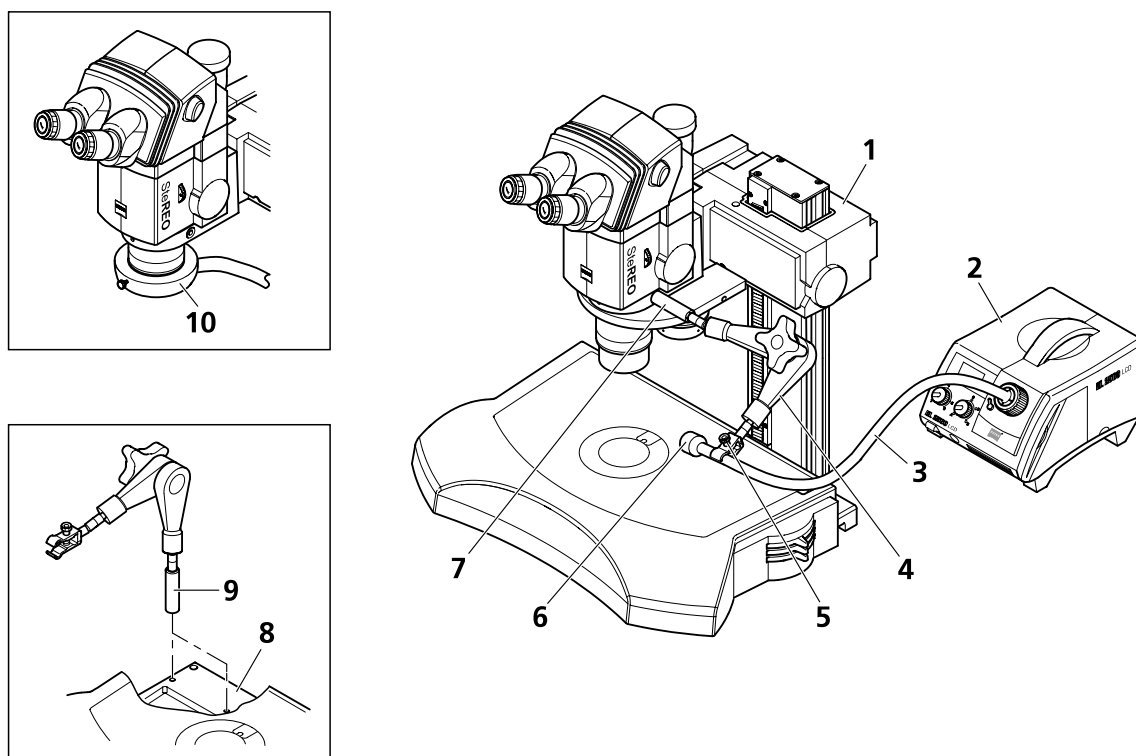

Fig. 19 **Installing the incident-light illuminator**
- **Flexible light guide with focusing attachment** (Fig. 19/3 and 6):
To be fastened to objective nosepiece, microscope carrier or stand base (Fig. 19/8) by means of the articulated arm and the clamp.
- **Fiber-optical ring illuminators and LED ring illuminators** (Fig. 19/10):
- Screw in the spacing rod (Fig. 19/7), if necessary.
- Hold the articulated arm (Fig. 19/4) in such a way that the label is correctly readable. Then, screw the clamp for the light guide (Fig. 19/5), the line light or the appropriate focusing attachment (Fig. 19/6) onto the upper end of the articulated arm.
- Screw the bottom end of the articulated arm (Fig. 19/4) into the spacing rod or one of the tapped holes on the stand. Tighten the tensioning screw on the articulated arm so that the latter can be used as lever.
- Connect the light guide (Fig. 19/3) to the cold-light source (Fig. 19/2).
The articulated arm may also be fixed to the stand base (Fig. 19/8). To this end, screw in the spacer (Fig. 19/9).
- Push the slit-ring illuminator (Fig. 19/10) onto the objective and clamp it by means of the knurled screw.
- Connect the light guide to the cold-light source (Fig. 19/2).